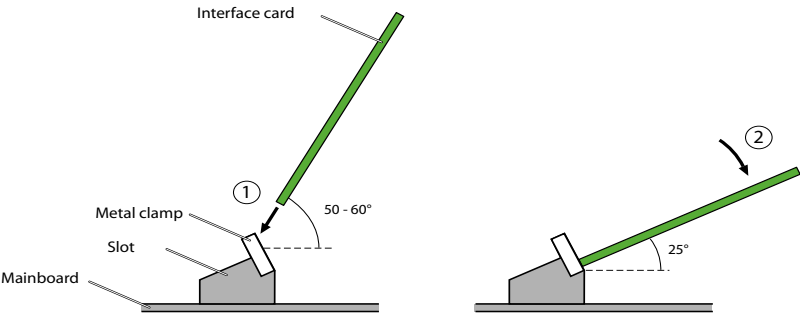

Fig. 22 Fitting an interface card
3. Place the interface card at a slight angle into the required slot (see Fig. 22). Make sure the angled side of the interface card is facing backwards (i.e. it must not project over the wiring adapter slots).